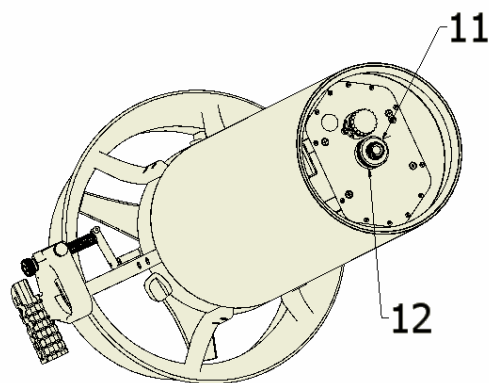
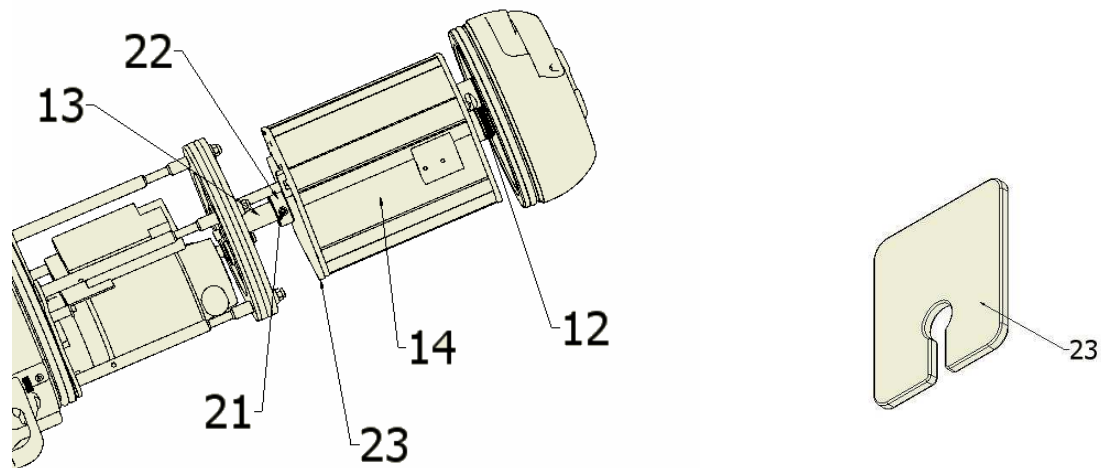

Figure 2
Figure 7 (view of the HDV without the external case)
After removing the shell, stand the HDV vertically, detach the red connector (15) (do not pull the wires), unscrew the ring nut (11), remove the red ring (12) (see fig. 2) and extract the battery (14) pulling it upwards off the rod (13). (see fig. 2 and 3)
The HDV should have **NEUTRAL** buoyancy **and be practically horizontal** meaning it should not sink but remain stable at the desired depth. The vehicle is supplied neutrally buoyant or slightly float in fresh water. Additional weights (23), are provided to compensate for differences between use in fresh or salt water (see fig. 7) consisting in a stainless steel plate that should be included or removed according to whether the HDV is used in fresh water (NOT USED) or seawater (USED).
Proceed as follows to insert the ballast (23): (see fig. 7)
IMPORTANT NOTE: Figure 7 illustrates the HDV in salt water settings, meaning the red ring (12) fig. 2 is positioned above the battery and the ballast (23) is positioned under the battery; when using the HDV in fresh water, the ballast (23) should be removed from the HDV and the red ring (12) is positioned under the battery in the place of the salt water ballast (23).
As for trim, you can change factory settings by moving the battery along the pin (13) (see fig.7). Remove the battery, loosen the nut (21) with a 4 mm Allen key, unscrew or screw in the ring nut (22); screwing it in, the HDV tends to position itself with the rear sinking, unscrewing it causes the opposite. Screw in the nut (21) without perforating, replace the battery and try the HDV in the water until the desired settings are reached.
Speed can be regulated slow or fast, see the previous paragraph fig. 7.